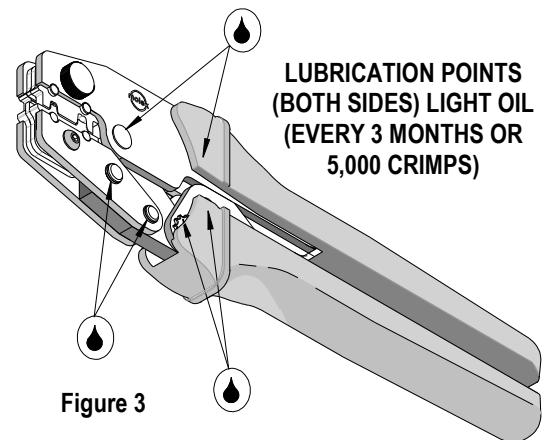

Figure 3
3. Make certain all pins; pivot points and bearing surfaces are protected with a thin coat of high quality machine oil. Do not oil excessively. The tool was engineered for durability but like any fine piece of equipment it needs cleaning and lubrication for a maximum service life of trouble free crimping. Use light oil, such as 30 weight automotive oil, at the oil points. Every 5,000 crimps, or 3 months, to significantly enhance the tool life. See Figure 3.